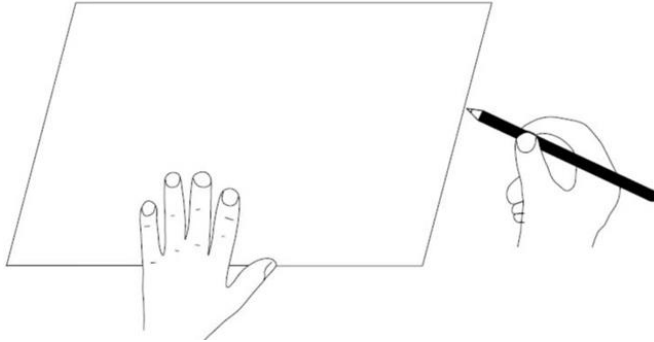

Fig. 4
- Use the cut-out template card as a template. Place in the required location and mark out the hole cutting size: 523mm x 343mm. Before commencing cutting ensure that the area behind the intended location is clear of all cables, pipes and joists. Once clear, cut out the section along the previously marked lines. (Fig. 4)